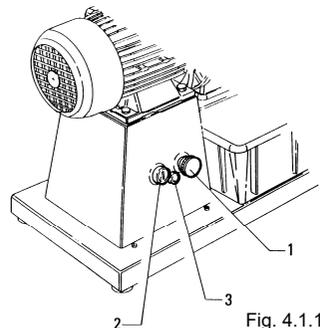

Fig. 4.1.1
2. Set the differential switch in position "I". The lit indicator "3" fig. 4.1.1, indicating that the machine is powered, must be illuminated.
3. Press the pushbutton "2" fig. 4.1.1 to start and immediately afterwards press the stop one "1" fig. 4.1.1, checking the rotation direction of the roller.
## **5.3 - Checking the efficiency of the stop pushbutton (fig. 4.1.1)**
While the machine is connected to the power supply and the utensil is moving press the pushbutton "2" fig. 4.1.1. The machine must stop
- Set the differential switch fitted upstream at "1". The light indicator "3" fig.4.1.1 will light up, indicating that the machine is powered
- Press the start pushbutton "2" (fig. 4.1.1) to start the machine.
- Press the stop pushbutton "1" fig 4.1.1 to stop the running of the machine; the light indicator "3" fig. 4.1.1 will remain on to indicate that the machine is powered.